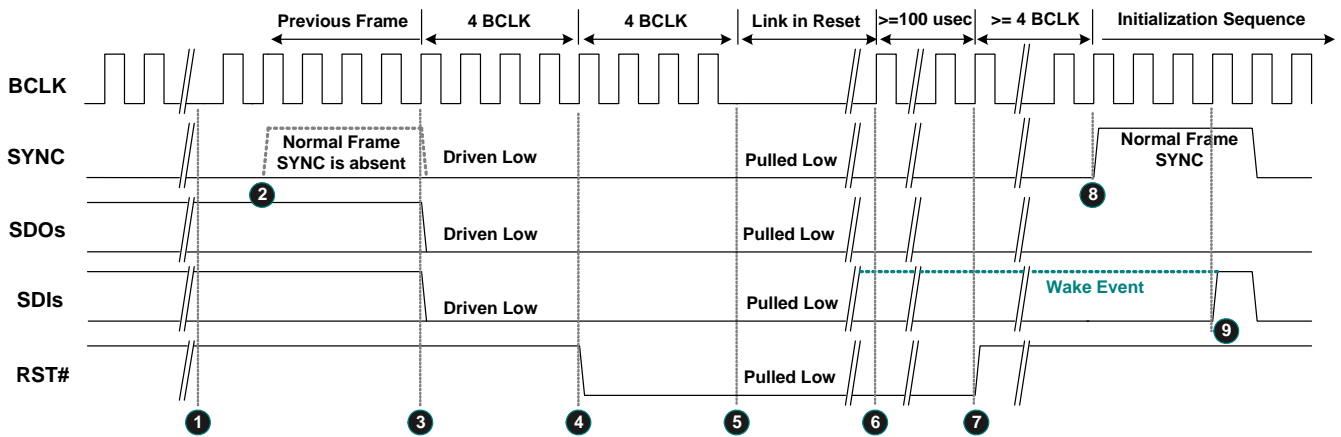

Figure 13. Link Reset Timing
3. Software initiates power management sequences. Figure 13, shows the 'Link Reset' timing including the 'Enter' sequence (①~⑤) and 'Exit' sequence (⑥~⑨)